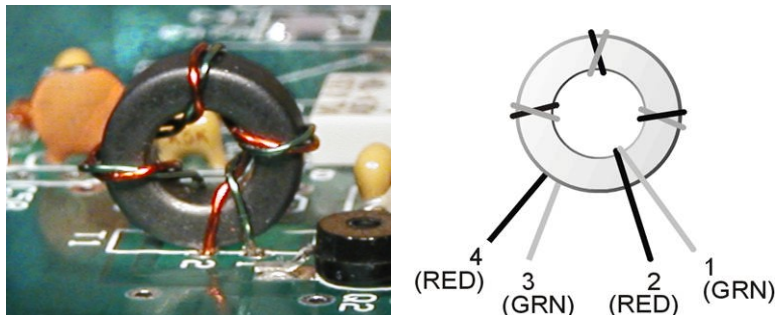

Figure 23. Installing T1.
- Wind 4 turns of the twisted pair on the FT37-43 toroid core as shown in **Figure 23**. Each time the wire passes through the core counts as one turn, so verify that the wires pass through the toroid four times. Spread the turns around the core as shown in the figure.
Insert the tinned leads in the holes on the board and position the toroid as shown in **Figure 23**. Be sure the correct lead goes to each hole. Use a magnifier to check the following: